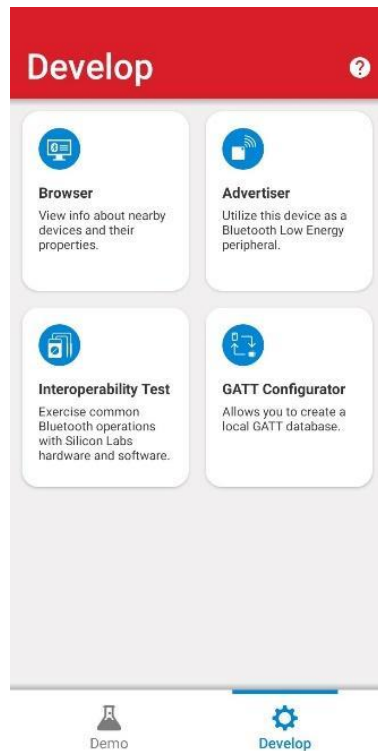

Fig. 5.8. “Browser” tab
- 4) Launch the **EFR Connect** application and select the **“Browser”** tab (Fig. 5.8).